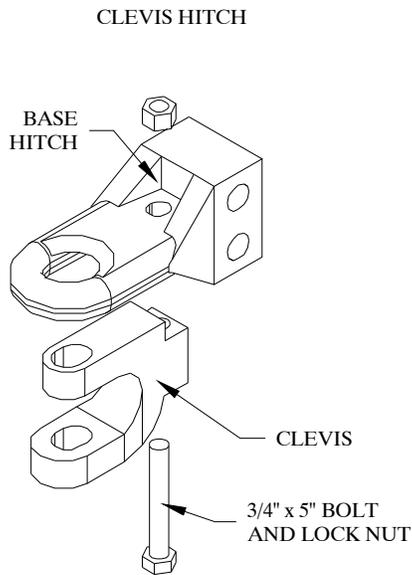
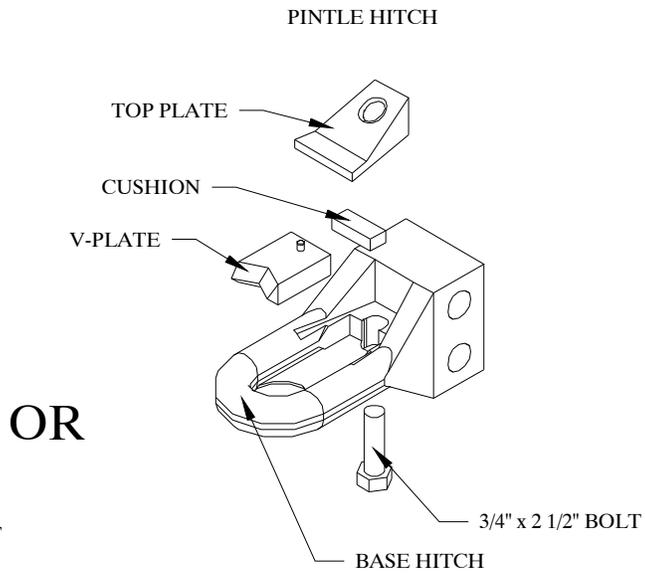

Figure 2
Figure 3
4. Assemble either a clevis hitch (figure 2) or a pintle hitch (figure 3) as required by the tractor or towing vehicle. Note the opposite orientation of the base hitch for each hitch type. Attach the hitch assembly to the Main Frame with two 1" x 6 1/2" bolts and locking nuts.